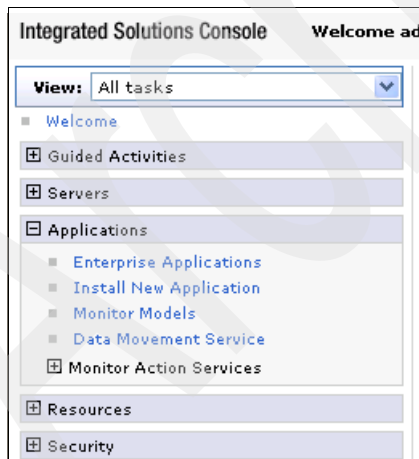

Figure 10-15 Install New Application menu
4. To install the mediation application, from the administrative console in the WebSphere Business Monitor server, expand **Applications** and click **Install New Application** (Figure 10-15).